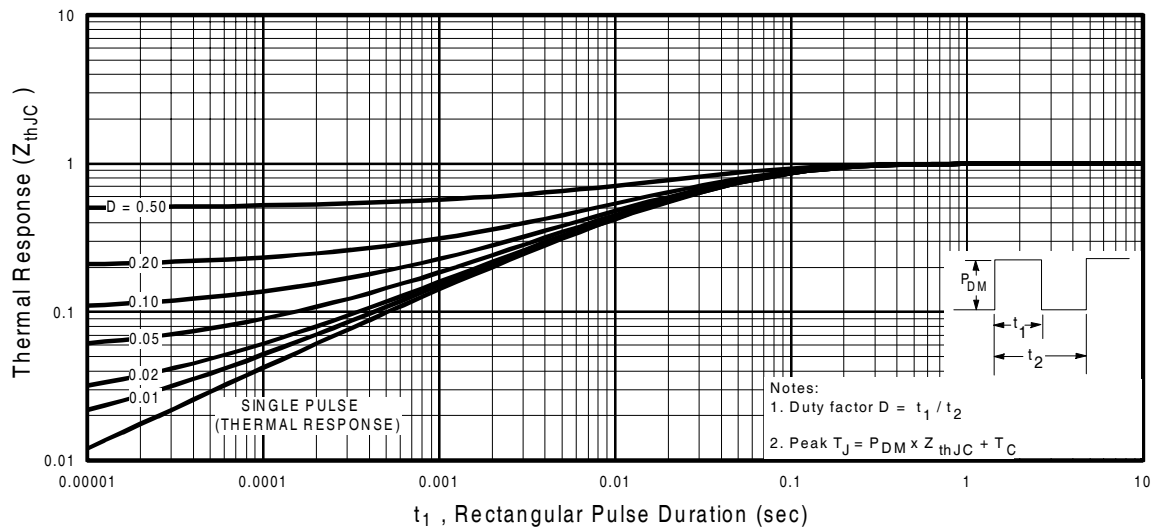

Fig 11. Maximum Effective Transient Thermal Impedance, Junction-to-Case
- ① Repetitive rating; pulse width limited by max. junction temperature. (See fig. 11)
- ② $V_{DD} = 25V$, starting $T_J = 25^\circ\text{C}$, $L = 1.2mH$